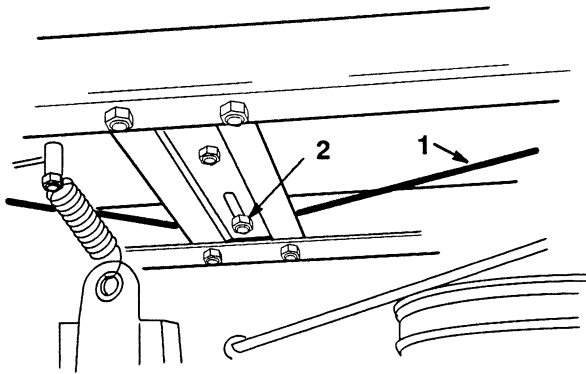

Figure 10
2. Check the cable tension. Cable should be taught and have 1/2 inch movement with slight pressure applied (Fig. 10).
3. To adjust the cable tension loosen the front cable guide, located on tractor brace above deck pulley. Slide guide sideways as required for proper tension (Fig. 10).